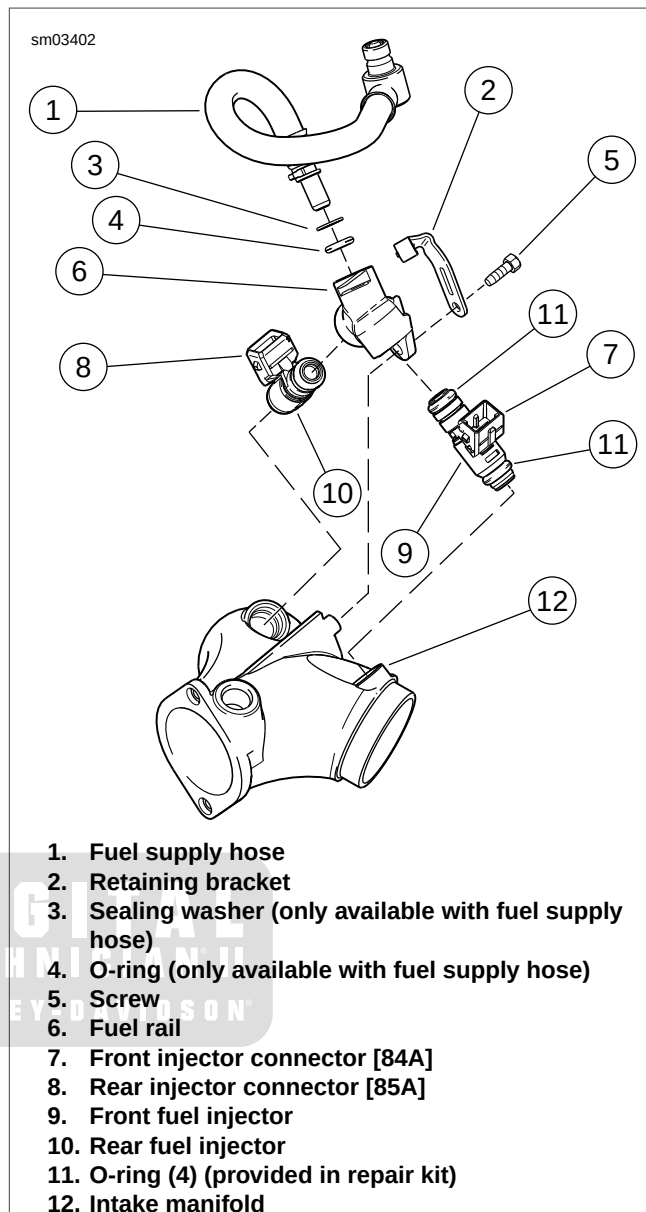
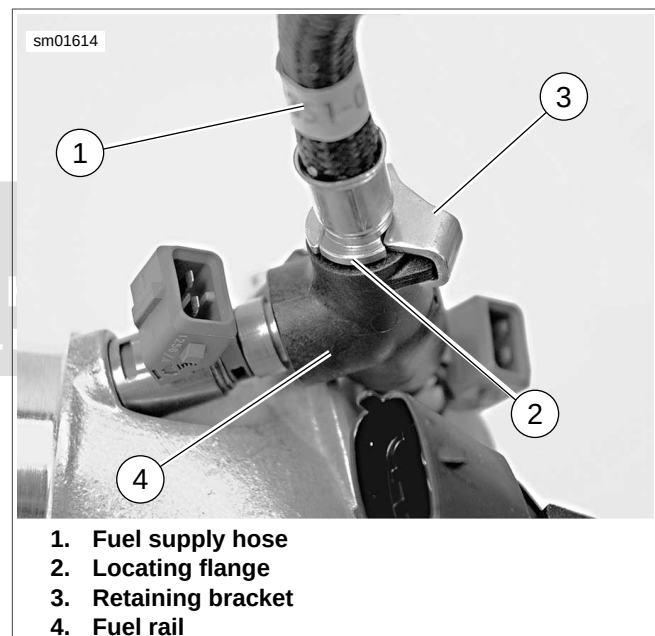

Figure 4-76. Fuel Injector Assemblies (typical: XL model shown)
Figure 4-77. Mounting Fuel Hose and Fuel Rail (Typical: XL Model Shown)
5. See Figure 4-76. Unplug engine sub-harness connectors from fuel injector connectors [84A], [85A] (7, 8).
6. Remove screw (5) and retaining bracket (2).
See Figure 4-76. If the fuel supply hose (1) or fuel rail (6) are not to be replaced, it is not necessary to separate them. Skip the next step.
7. Disassemble fuel supply hose (1) from fuel rail (6) as follows:
10. Remove and discard O-rings (11).
1. See Figure 4-76. Apply a thin coat of clean engine oil to **new** fuel injector O-rings (11). Install O-rings onto fuel injectors (9, 10).
- a. See Figure 4-76. Inspect sealing washer (3) and O-ring (4) for damage. If either require replacement, install a **new** fuel line kit.
The fuel supply hose must be oriented properly when installing the retaining bracket. See Figure 4-77.
5. See Figure 4-76. Install retaining bracket (2) and fastener (5) as follows:
- a. See Figure 4-77. Orient fuel supply hose so that locating flange (2) is positioned as shown.
- b. Install retaining bracket (3) so that U-shaped opening in bracket fits around fuel supply hose and locating flange as shown.
- c. See Figure 4-76. Secure retaining bracket (2) with screw (5). Tighten to 60 **in-lbs** (6.8 Nm).